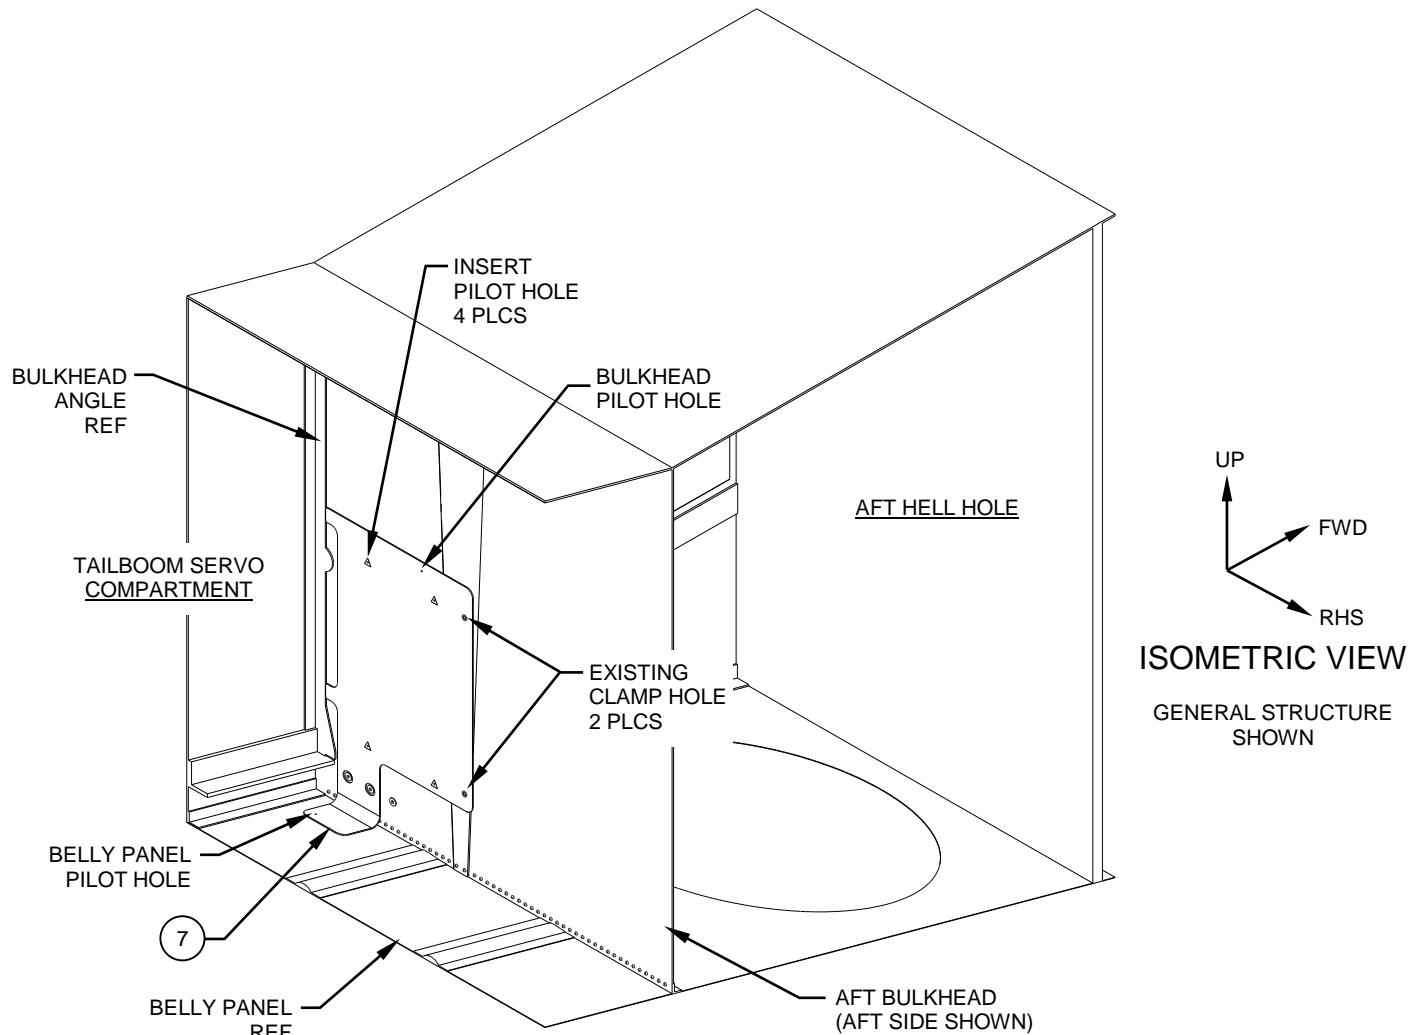

**Figure 2**
1. Remove the existing Drain Line assys, P/N 212-061-635-001 & 212-061-630-001, unnecessary attachment hardware and grommets from the aircraft. Reference Figure 2.